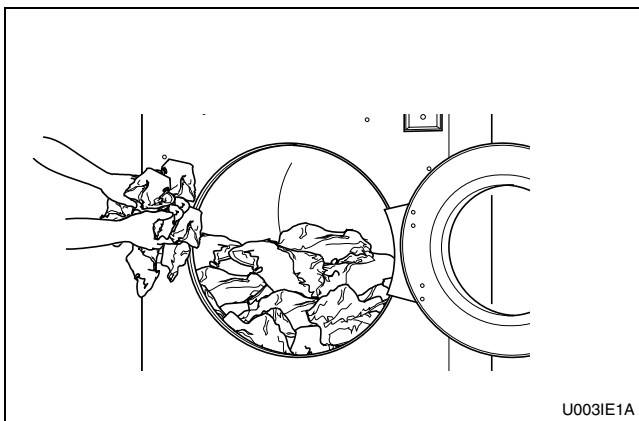

Figure 10
3. Load to capacity whenever possible. **DO NOT OVERLOAD.** Refer to *Figure 10*.